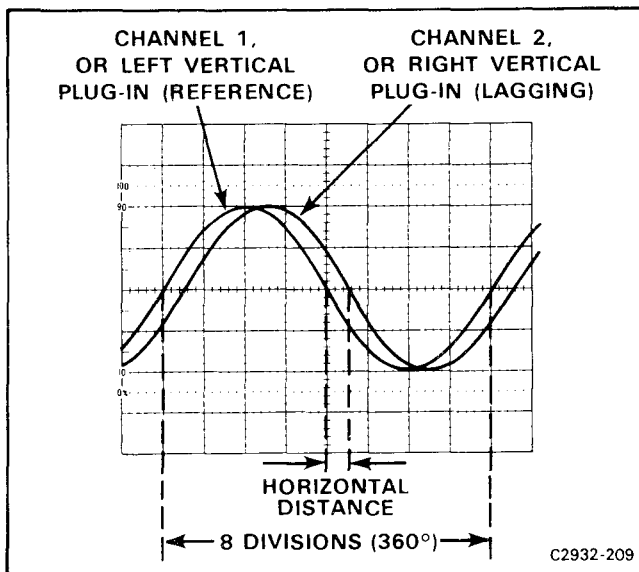
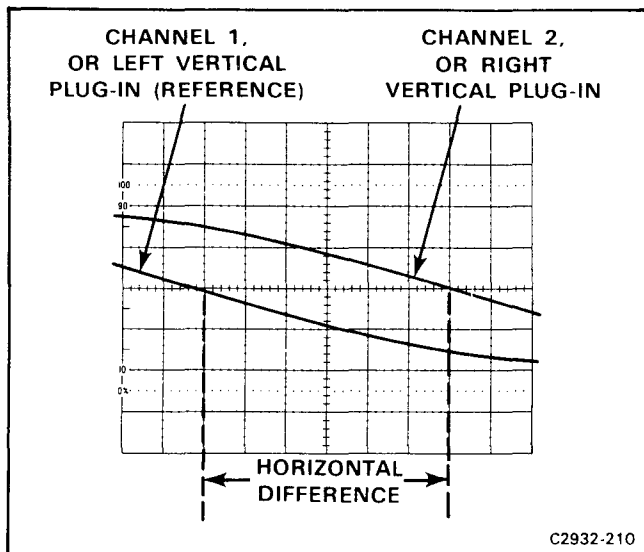

Figure 2-13. Measuring phase difference.
Figure 2-14. High-resolution phase difference measurement with increased sweep rate.
9. Turn the variable Time/Div control until one cycle of the reference signal (channel 1, or left plug-in) occupies exactly eight divisions between the second and tenth vertical lines of the graticule (see Fig. 2-13).
**EXAMPLE:** Assume a horizontal difference of 0.6 division with a sweep rate of 45 degrees/division as shown in Figure 2-13. Use the formula:
**EXAMPLE:** If the sweep rate were increased 10 times with the magnifier, the magnifier sweep rate should be 45 degrees/division divided by 10 = 4.5 degrees/division. Figure 2-14 shows the same signals as used in Figure 2-13, but with the sweep magnifier button pushed in. With a horizontal difference of six divisions the phase difference is: